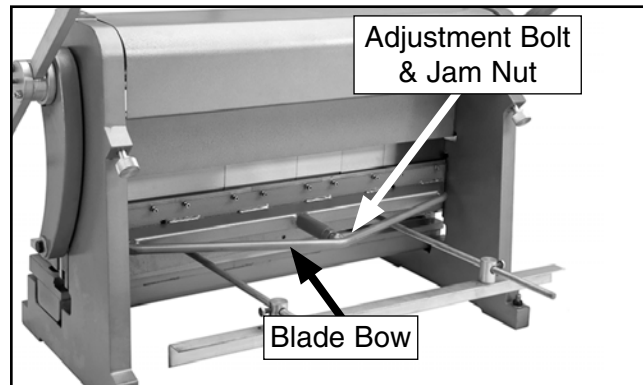

Figure 50. G4011Z and T26751Z blade bow adjustment bolt.
The adjustment bolt of the blade bow is used to remove any slight bow in the cast-iron cross beam to which the brake finger receiver and upper shear blade are attached (see **Figure 50**). It should be adjusted if the shear blade does not cut evenly across its entire length. Before adjusting the blade bow, perform the shear test cut described in **Checking Blade Gap** on **Page 30**.
1. If shear test cut was clean in center but not on ends, rotate jam nut (see **Figure 50**) clockwise $\frac{1}{8}$ turn at a time, then retest and re-adjust as necessary until paper cuts cleanly along entire length of blades.